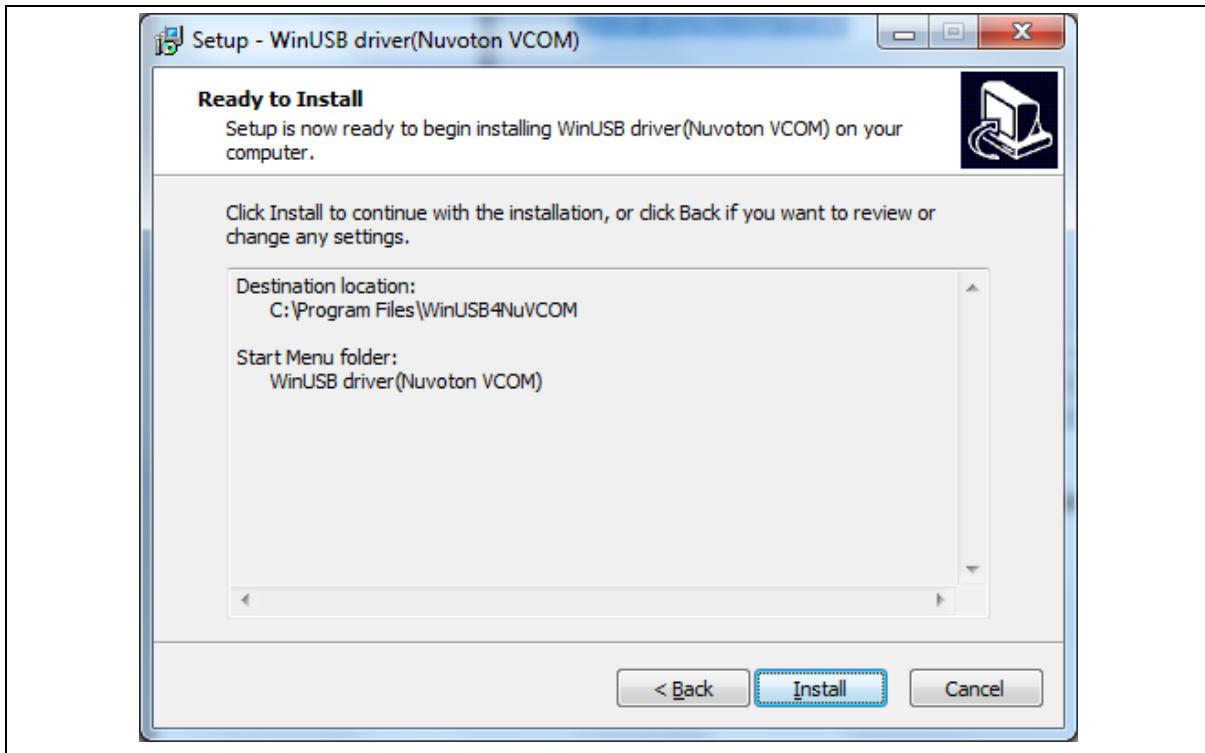

Figure 2-5 WinUSB4NuVCOM Driver Setup (5)
Step 5: Click “Install” (Figure 2-5).